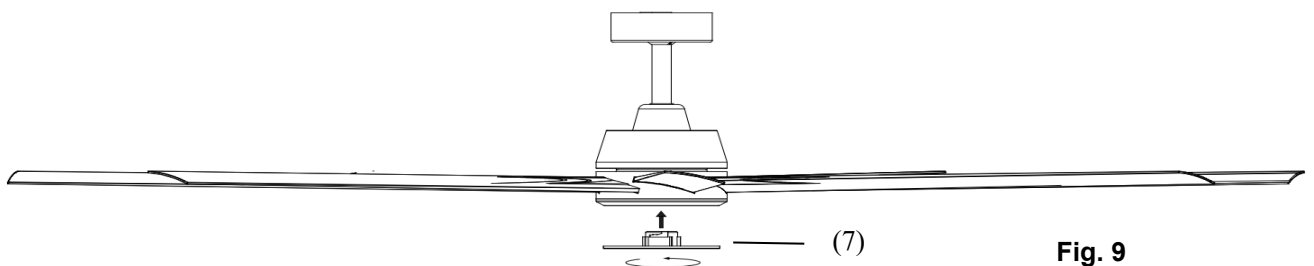

Fig. 9
- Install the non-light decoration plate (7) on the light bracket. (Fig.9)